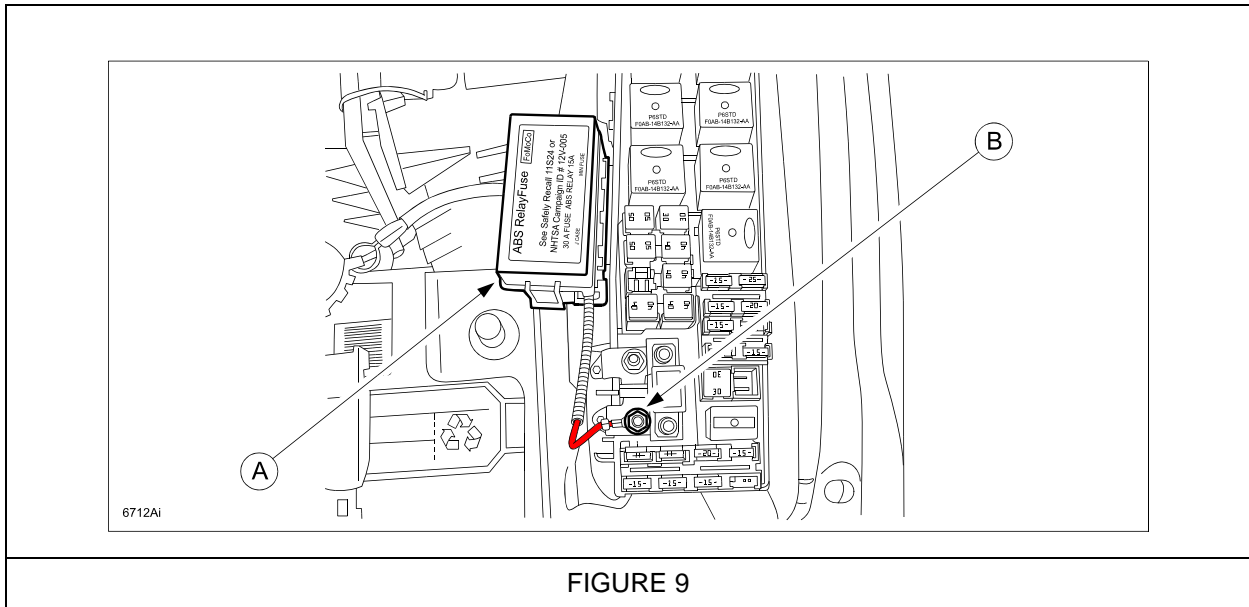

FIGURE 9
- Position the ABS relay housing (A) next to the PDB. (Do not attach relay to PDB at this time.)
- Remove the B+ terminal nut (B). See Figure 9
- Connect the red ABS relay wire eyelet to the B+ terminal inside the PDB. See Figure 9